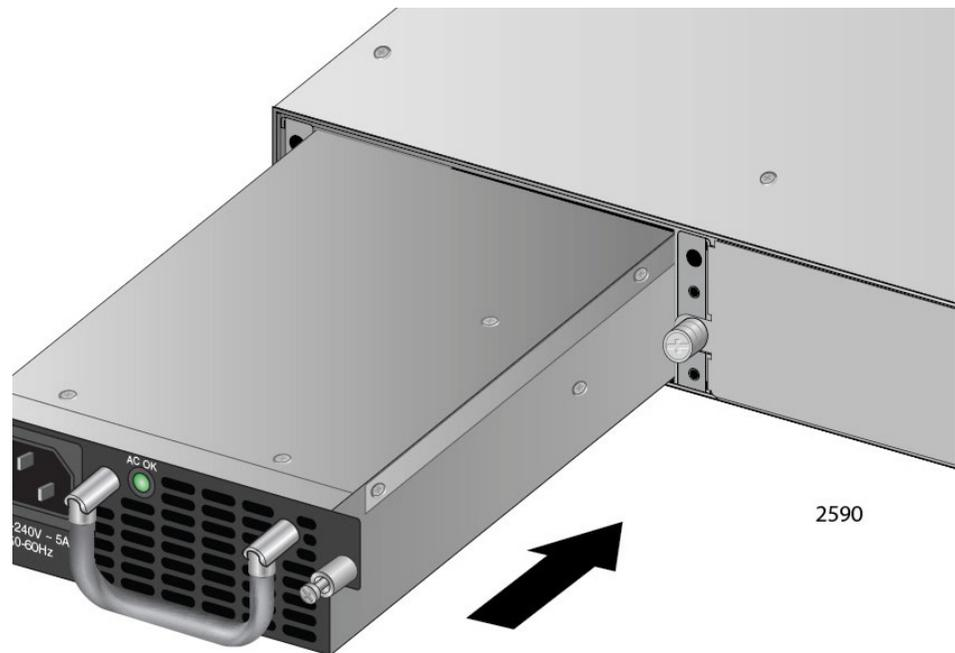

Figure 19. Insert AT-PWR06 Module Into Chassis
4. Slowly insert the AT-PWR06 power supply module into the PSU slot until it is flush with the front of the chassis. See Figure 19.